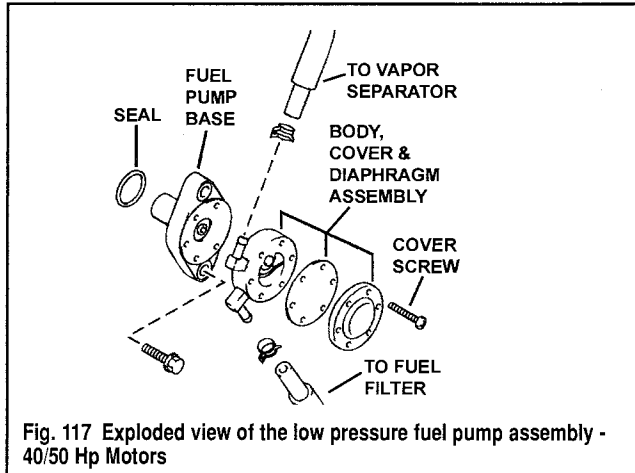

Fig. 117 Exploded view of the low pressure fuel pump assembly - 40/50 Hp Motors
◆ See Figures 117 and 118
#### ◆ See Figures 117 and 118
#### ◆ See Figure 117
- ◆ See Figures 117 and 118